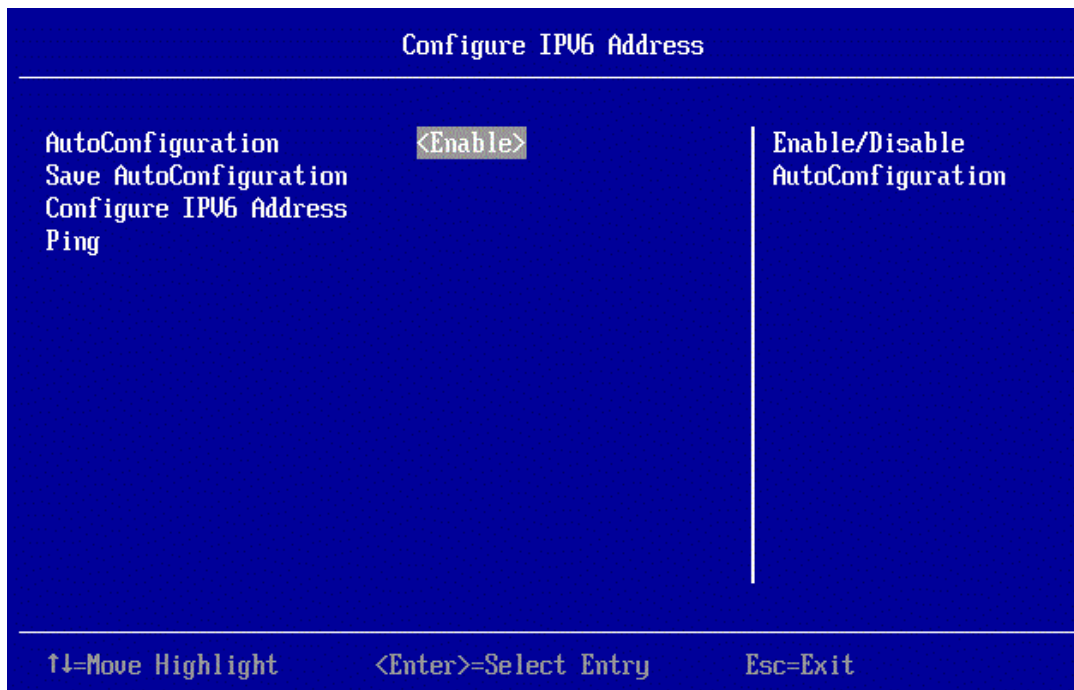

Figure 11-10 Configure IPV6 Address Screen
1. On the Configure IPV6 Address screen (Figure 11-10), select **AutoConfiguration** and press **<Enter>**.
1. On the Configure IPV6 Address screen (Figure 11-10), select **Configure IPV6 Address** and press **<Enter>**. The Configure IPV6 Address screen appears.
To ping the iSCSI initiator, on the Configure IPV6 Address screen (Figure 11-10), select **Ping** and press **<Enter>**.